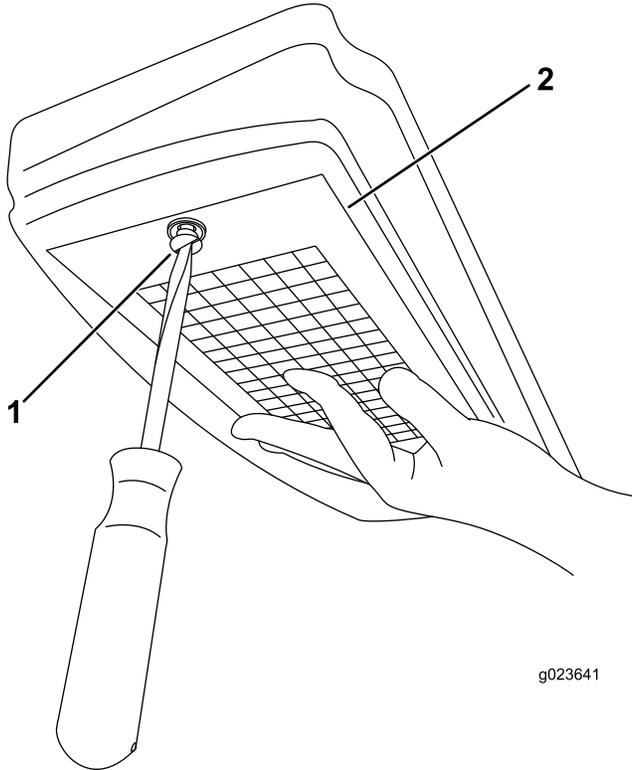

Figure 129
3. Remove the screw and the cover that house the air filter (Figure 129).